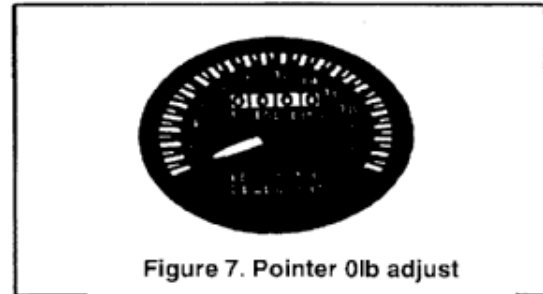

Figure 7. Pointer 0lb adjust
32. Adjust "E" trimmer, marked "D" for "Dial" indication, until gauge pointer reads **0 lb** (Figure 7).